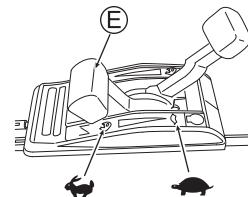

Fig. 13
- Confirm that there is no person behind you when pulling the starter knob (V).
- Securely hold the starter knob (V) when you pull it.
- Return the starter knob (V) slowly.
5. Warm up the machine before use. After the engine has warmed up, start mowing by setting the throttle lever (E) to "↖". (See Fig. 13)